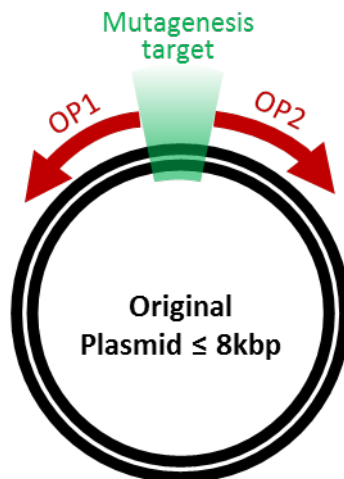

Figure 2:
1. Identify the position of the nucleotide(s) to be mutated in your plasmid ("Mutagenesis target" in Fig.2). This position will serve as the orientation point for the selection of the Opener (mutagenic) Primers.